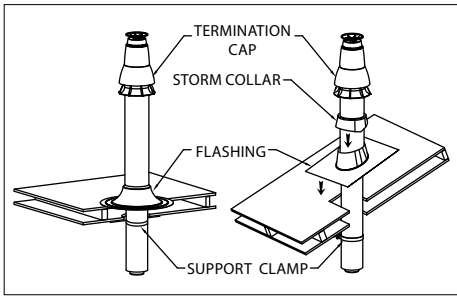

Figure 17
5. Attach flashing to roof (**Fig.17**)
5. Attach flashing to roof (**Fig.17 & 19**)